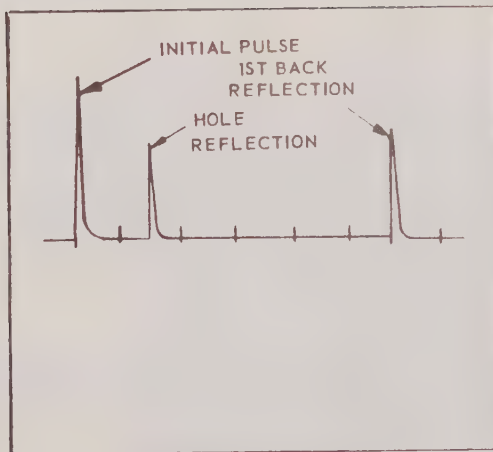

Figure 3-7 Initial Pulse, Hole and 1st Back Reflection
- (3) Move search unit over large hole and check number of divisions to hole indication.
- (4) Slide search unit to the left along top of block until the reflection from the middle hole appears on CRT. Note that the hole is $3/4$ " (1 and $1/2$ divisions) from the top surface. (Figure 3-7).
- (5) Repeat above steps with search unit over other small hole.